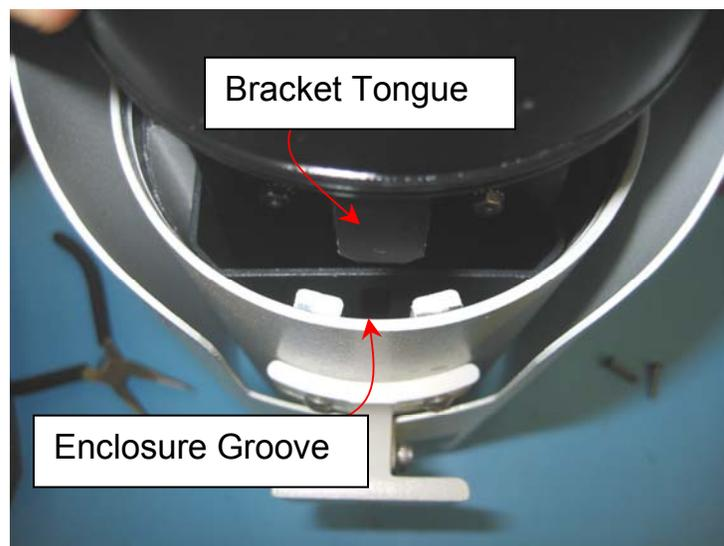

Figure 6-4: Tongue and Groove Alignment
4. Insert the SR Series camera assembly into the front of the enclosure aligning the tongue on the underside of the interface board bracket with the groove on the inside bottom of the enclosure, as shown in Figure 6-4. Press the two components together and ensure the O-ring is seated properly.